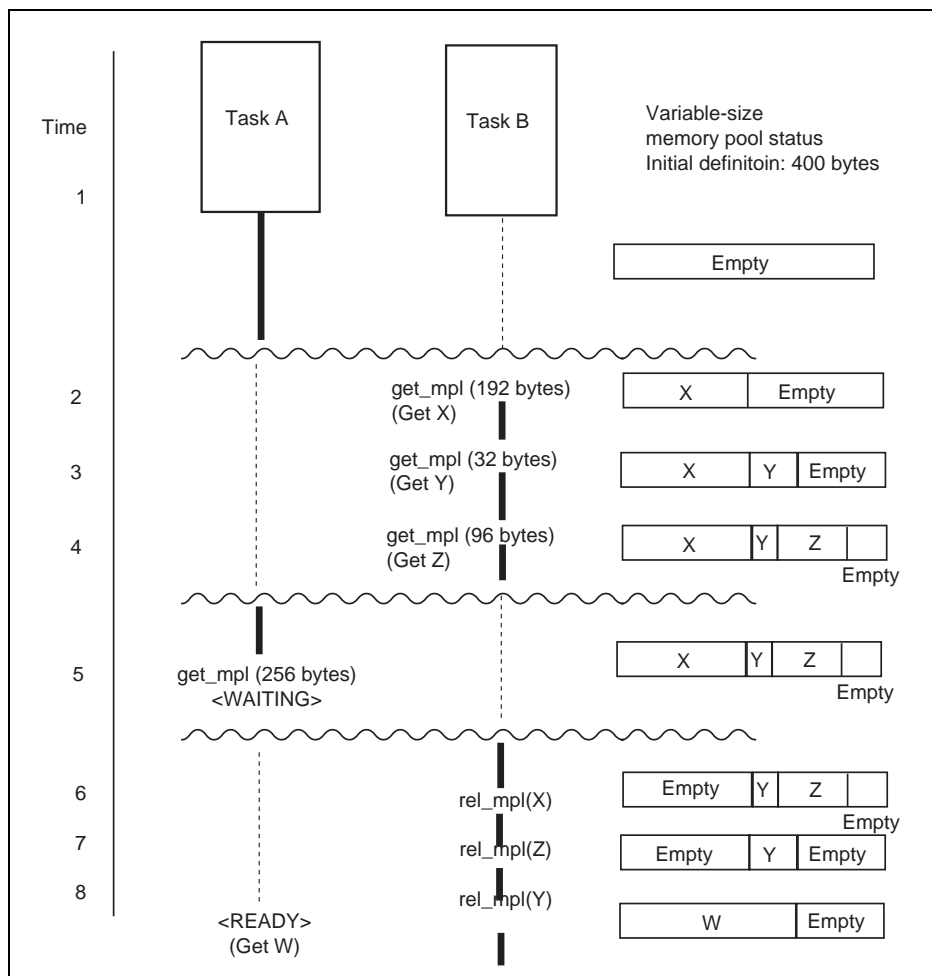

Figure 4.9 Example of Using Variable-Size Memory Pool
Figure 4.9 shows an example of using a variable-size memory pool.
2. Task B acquires 192-byte memory block X by issuing get_mpl. At this time, the kernel uses 16 bytes in the memory pool. This is not indicated in Figure 4.9.